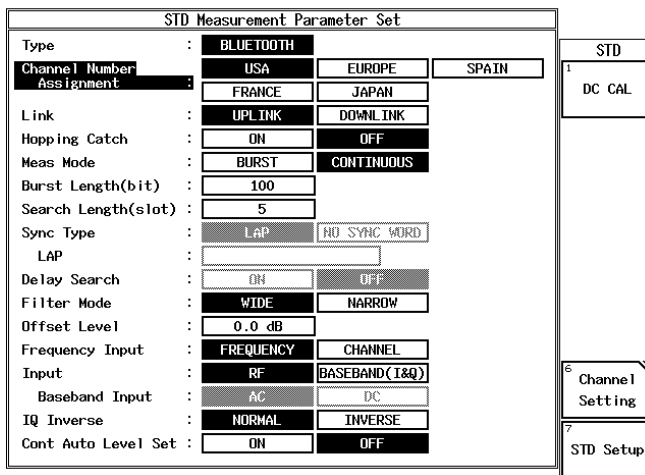

Figure 6-2 Setup of STD parameters
3. On the R3267 Series, set the STD parameter as shown Figure 6-2.
11. On the R3267 Series, press **STD** to return to STD Setup display as shown in Figure 6-2.